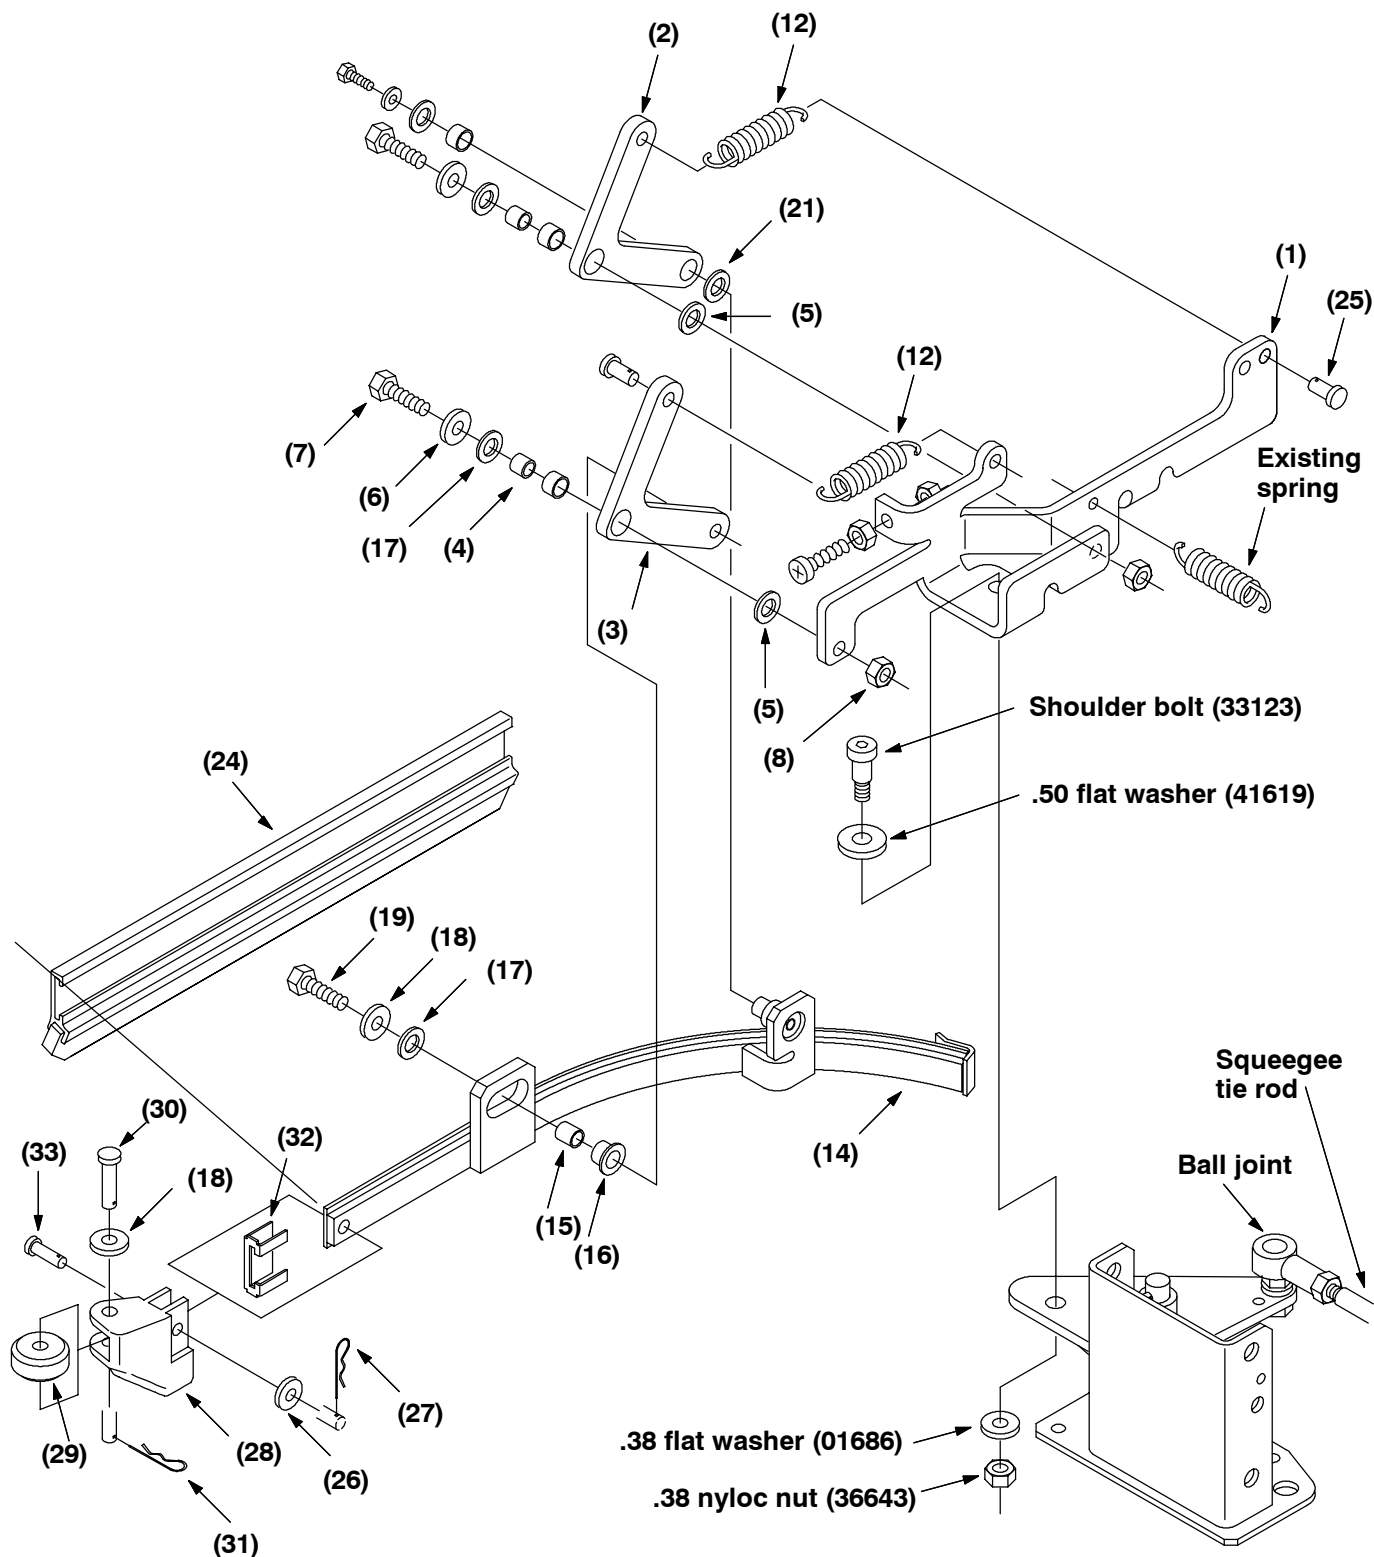

FIG. 2 - RIGHT HAND SIDE SQUEEGEE ASSEMBLY 84118
7. Assemble the new **right** hand side squeegee assembly (5) using the parts explosion in FIG. 2. Use the parts list on page **6** for any future parts orders. (Refer to FIG. 2)
2. Install the new right hand side squeegee assembly (5) on the right side squeegee pivot bracket. Use one .38 in. shoulder screw (6), .50 in. flat washer (7), .38 in. flat washer (8), and one .38 in. thin nyloc nut (9). Firmly hand tighten the nut. (Refer to FIG. 2)